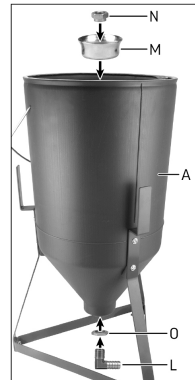

FIGURE 3.
4. Place the bowl bushing (M) and top set nut (N) inside the bottom of the plastic hopper bucket (A). Screw the elbow connector (L) into the bowl bushing until snug with use of the bottom set nut (O). See Figure 3.